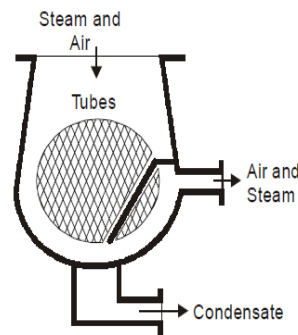

Fig. 1.9
- (i) Down flow type. Fig. 1.9